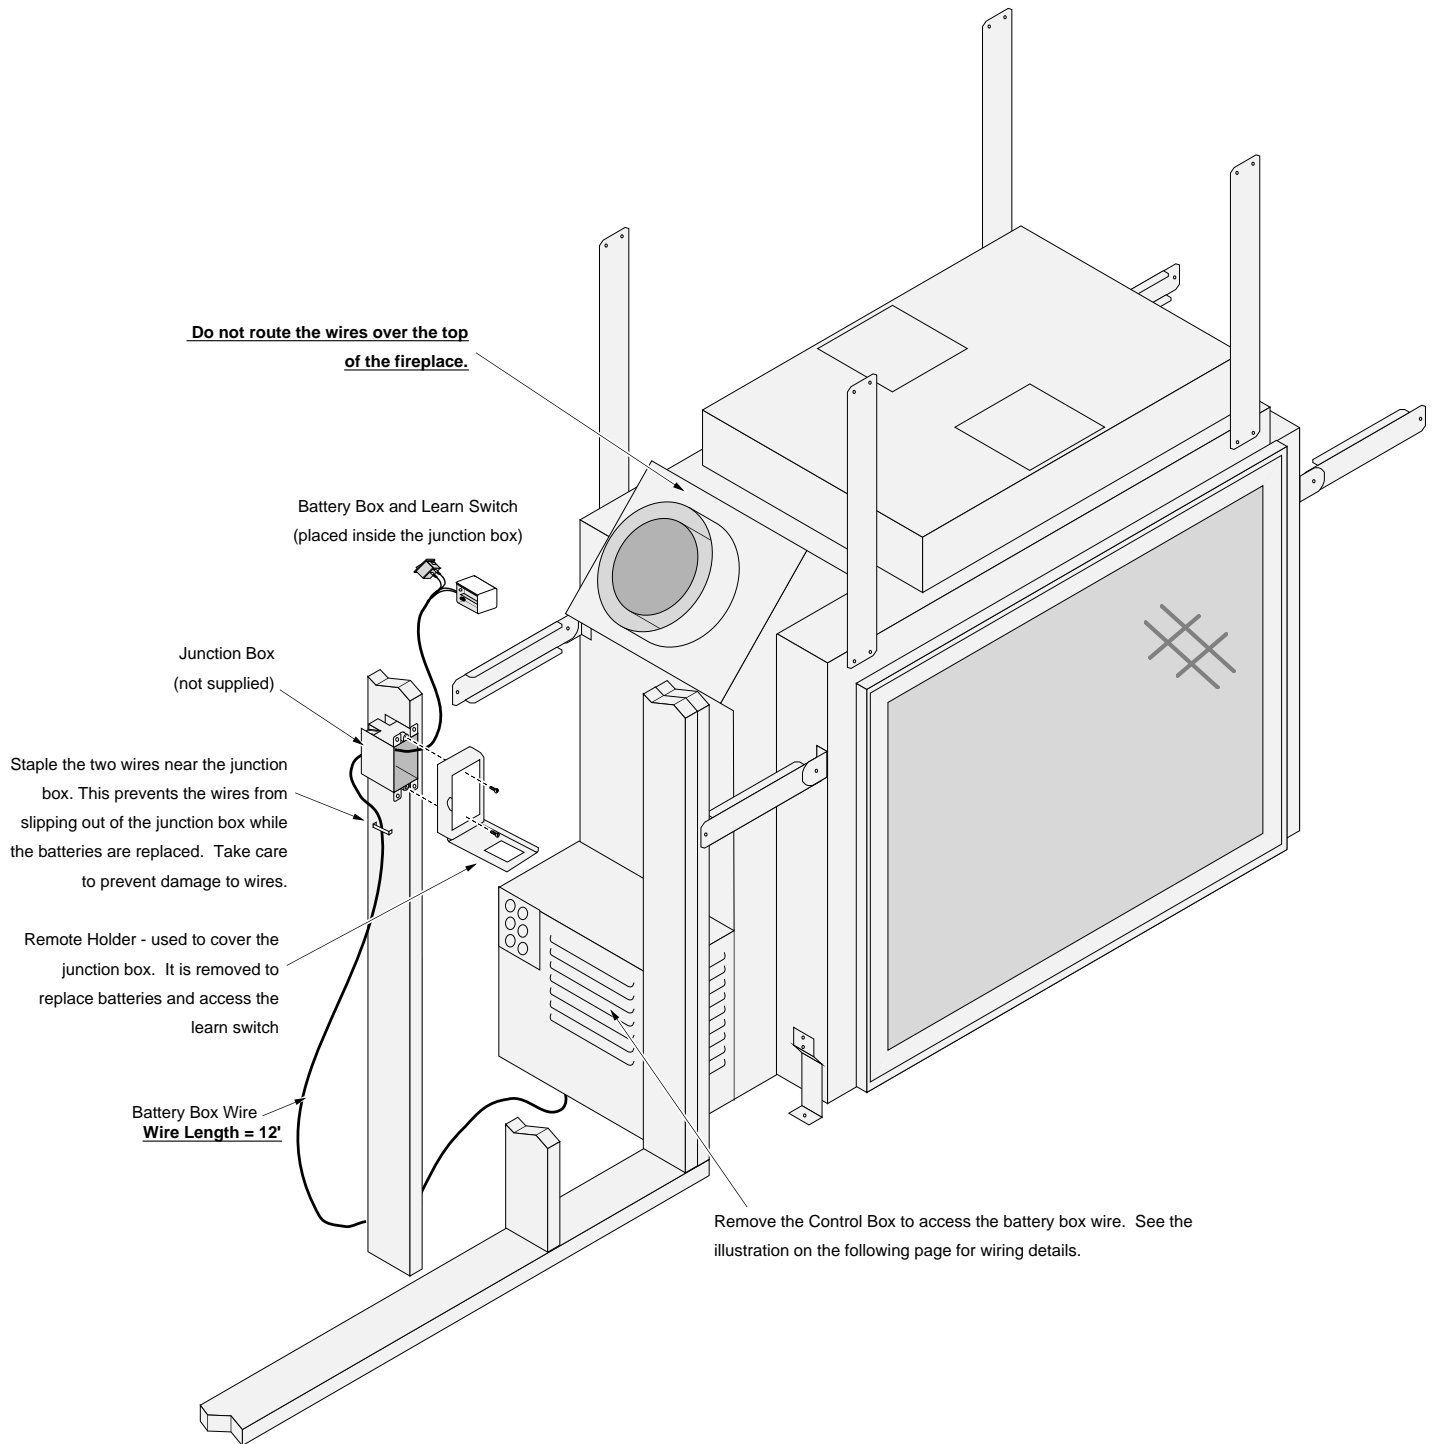
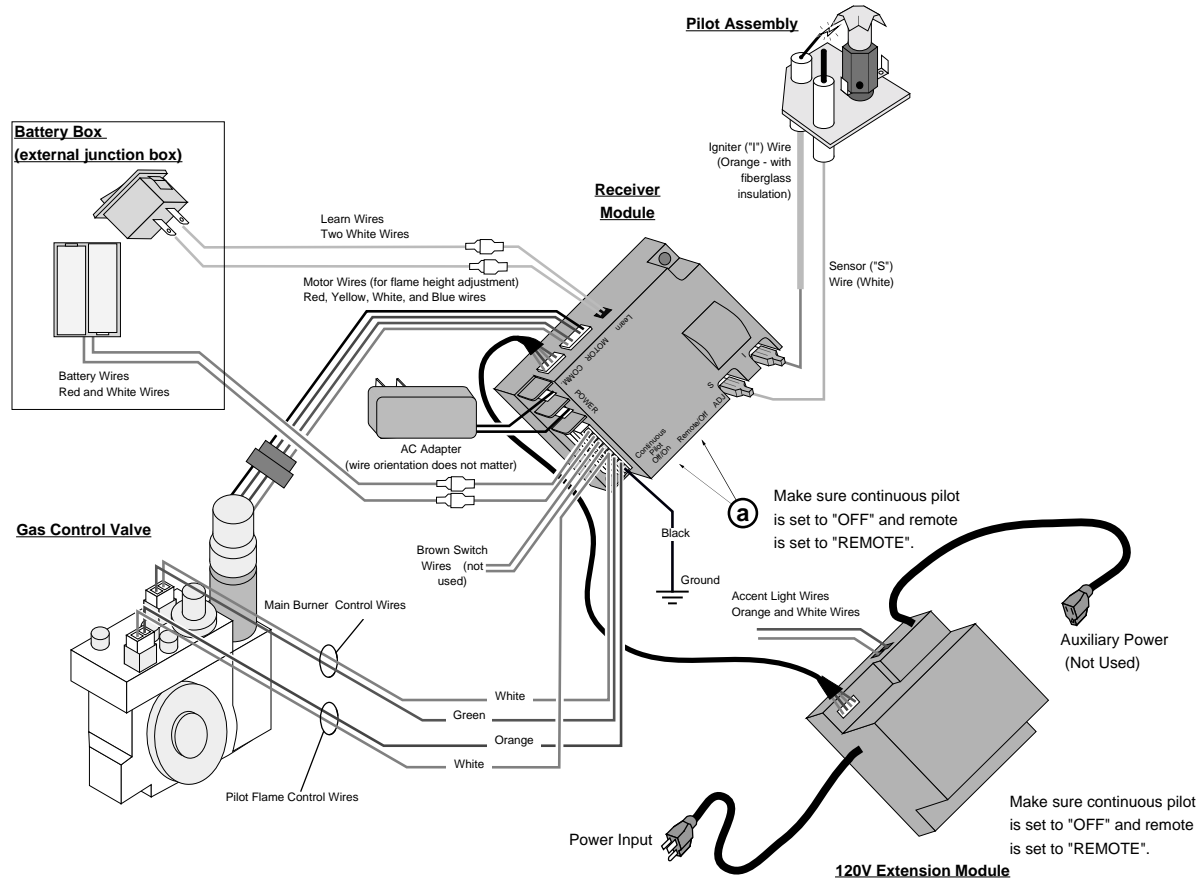

Figure 8
Figure 9
- The battery pack and learn switch must be mounted inside a junction box in a location that may be reached by the 12' long battery box wires (see Figure 8).
1. Remove the control cover and attach the 12' long battery box wire to the quick connects on the receiver module (see Figure 9 below). Route the battery box wire through the opening below the cover. At this time make sure the continuous pilot switch is set to "OFF" and the remote switch is set to "REMOTE" on the receiver module – item "a"). You may also wish to verify all the wire leads are fully attached.
3. Insert the battery box wires through the junction box, leaving approximately 8" of slack so the battery pack may be removed and the batteries replaced. Use a staple or other means to secure the wiring to the framing – this prevents the wires from slipping out of the junction box in the event the wires become disconnected from the battery pack (see Figure 8). NOTE: The wiring is low-voltage (6V) and does not require a strain relief. Connect the learn switch and battery pack wires (see Figure 9).